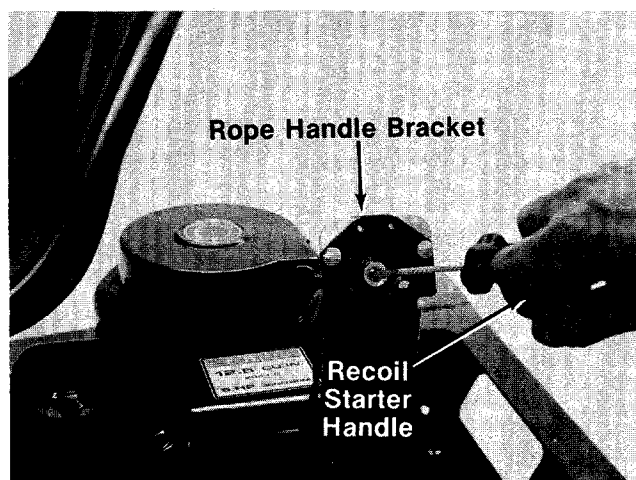

FIGURE 15.
The recoil starter handle is located on the left rear side of rider. The recoil starter handle can be pulled while standing by the left rear side of unit. The ignition key must be on before the engine will start. After the engine starts, the recoil starter handle must be returned and locked into the rope handle bracket before the blade or clutch is engaged. The engine will stop if these instructions are not followed. See figures 15 and 16.
6. Turn the ignition key to the "ON" position. Twist the recoil starter handle until it is free and pull it with a quick steady motion. After the engine starts, return the recoil starter handle and twist it until it locks. See figure 15.